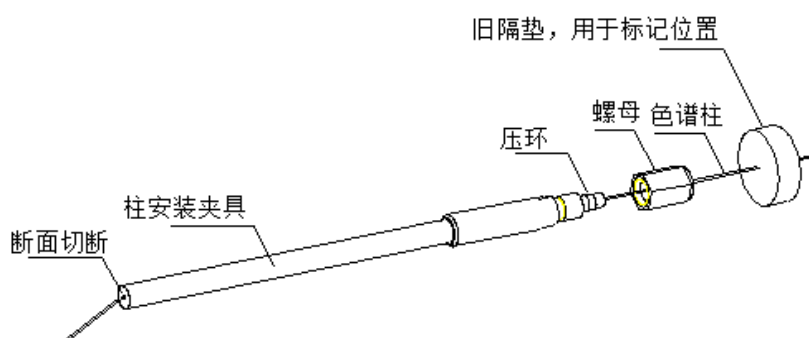

Figure 2-8 Column installation at MS interface end
1. The position markers (such as old septa), pressure ring ferrule and the pressure ring pass through the free end of the column (as shown in Figure 2-8) in sequence. The tapered end of the ring must face the interface column nut.